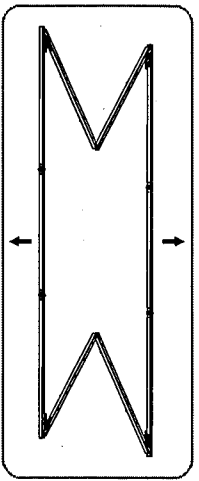

Figure 7
4. Extend vertical sides of the frame and "click" hinges into place (Figure 7).